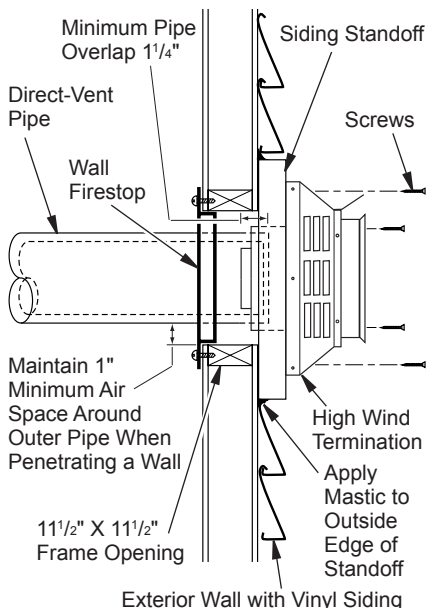

Figure 13 - Typical Horizontal Termination Cap Mounting with Additional Siding Standoff Installed
8. Carefully move fireplace, with vent assembly attached, toward wall and insert vent pipe into horizontal termination. The pipe overlap should be a minimum of 1 1/4" (see Figure 13, page 10).
9. **Combustible Exterior Wall Only:** Slide wall firestop against interior wall surface and attach with screws provided. See Figure 13, page 10, for horizontal termination details.